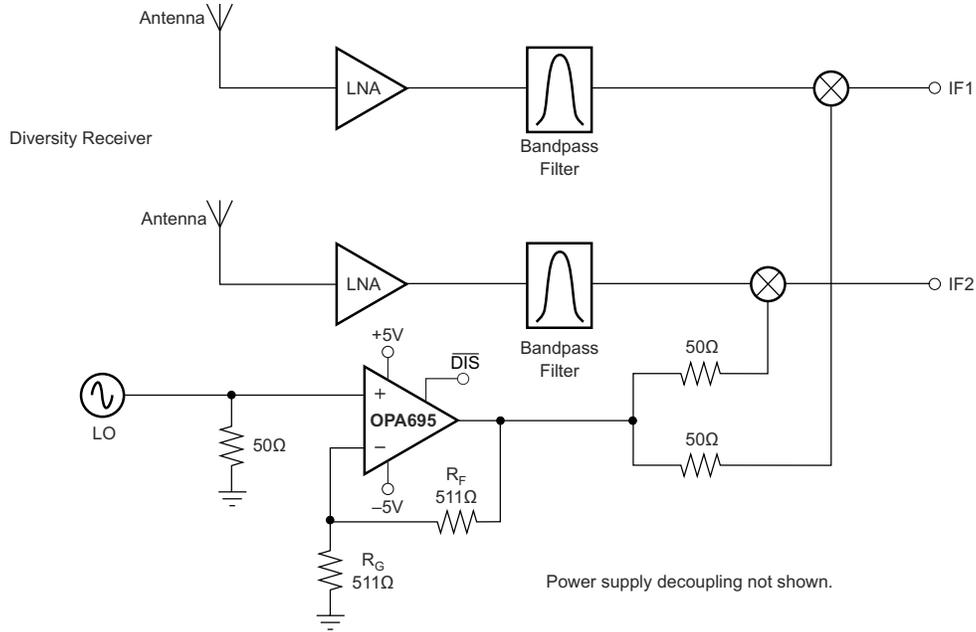

图 7-5. Dual Output LO Buffer
The OPA695 can also be used to buffer the local oscillator (LO) from the mixer. Operating at a voltage gain of +2 V/V, the OPA695 provides excellent load isolation for the LO, with a net gain of 0 dB to the mixer. Applications through a 1.4-GHz LO can be considered, but best operation is for an LO < 1.0 GHz at a gain of +2 V/V. Gain can also be provided by the OPA695 to drive higher power levels into the mixer. 图 7-5 shows one option for the OPA695 as an LO buffer. The OPA695 can drive multiple output loads; therefore, two identical LO signals can be delivered to the mixers in a diversity receiver by tapping the output off through two series 50- $\Omega$  output resistors. This circuit is set up for a voltage gain of +2 V/V to the output pin for a gain of +1 V/V (0 dB) to the mixers, but can be easily adjusted to deliver higher gains.